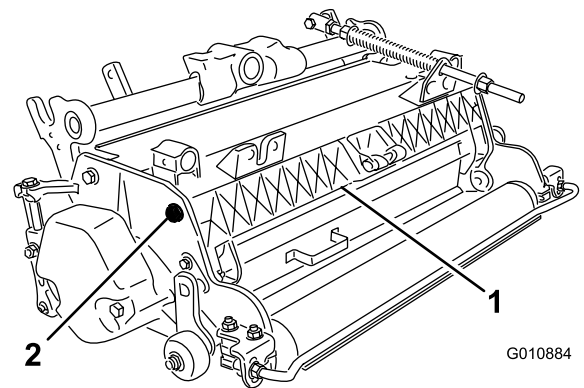

Figure 5
1. Loosen the cap screws on the pivot of the grass shield (Figure 5).